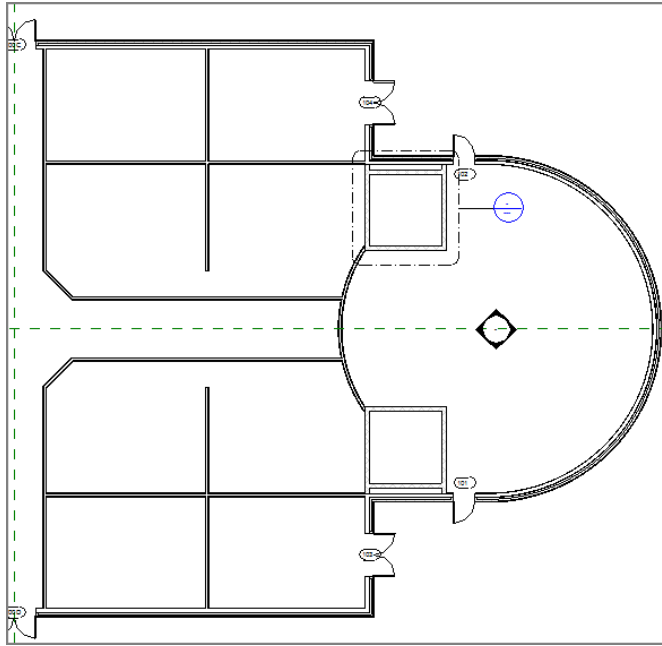

FIGURE 4.5: The two walls copied, segmenting the spaces north and south of the corridor
9. Mirror the two walls to the south side of the corridor, as shown in Figure 4.5. The ends of the walls don't meet. This is fine—you'll modify these walls with the Trim command in a moment.